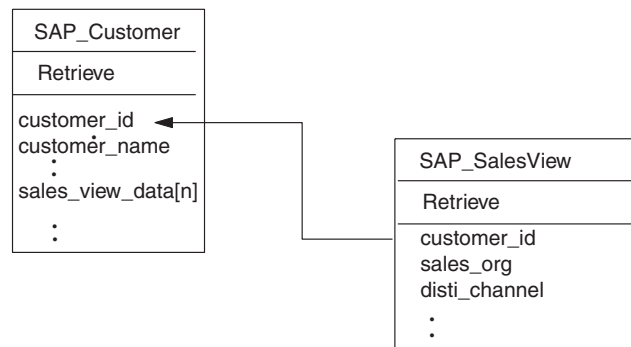

Figure 62. Example customer and sales view relationship
- In a multiple-cardinality relationship, the foreign key is determined by the primary key in the child referencing the **primary key** attribute in the parent. Each child has at least one simple attribute that contains the parent’s primary key as a foreign key. The child has as many foreign-key attributes as the parent has primary-key attributes. Figure 62 on page 166 provides an example.
Figure 62 provides an example of a different WebSphere business object developed to process customer objects in SAP. This example SAP_Customer has a multiple-cardinality relationship to the example sales view object that it contains (the sales_view_data[n] attribute has cardinality n). The primary key attribute (customer_id) in the child business object references the primary key (customer_id) in the parent business object.